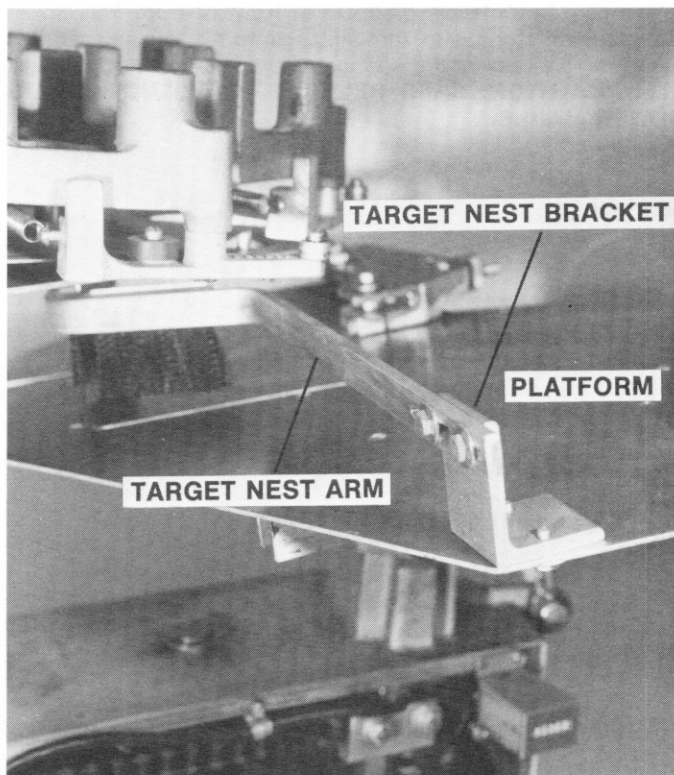

Figure 5 — Target Nest Arm and Bracket Screws
5. To reposition target nest arm, loosen the two screws that hold target nest bracket to platform (see Fig. 5) and pivoting arm. To position target nest arm sideways, loosen the two screws that hold target nest arm to target nest bracket (see Figure 5).